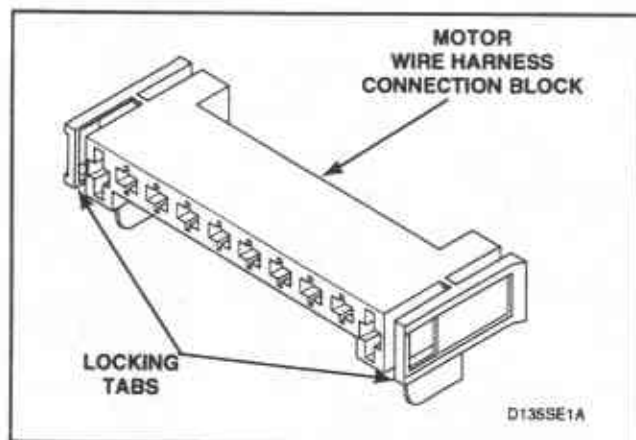

Figure 33
- g. Disengage motor wire harness terminal block from motor switch by pressing in on the movable locking tabs (located on each end of the terminal block) and pulling away from motor, *Figure 33*.
- (1) Disengage motor wire harness terminal block from the motor by pressing in on the movable locking tabs (located on each side of the terminal block) and pulling away from motor, *Figure 33*.